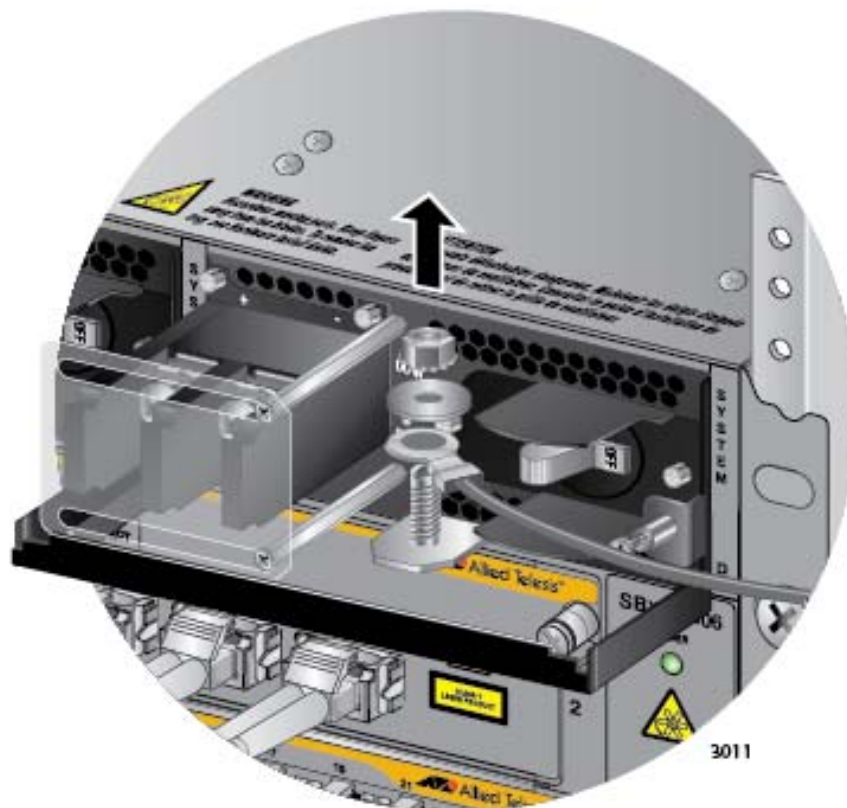

Figure 142. Removing the Grounding Wire
9. Use an 8 mm wrench to remove the grounding wire from the grounding post. Refer to Figure 142 on page 226.